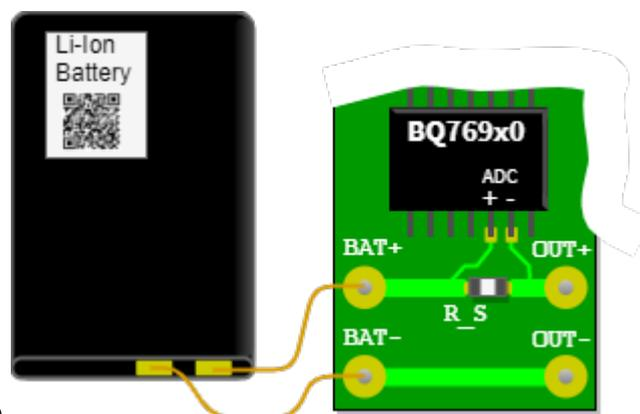

Fig. 32: Sketch of the setup
- The battery monitor BQ769x0 measures the charge and discharge currents of a lithium-ion battery by means of the voltage across a measuring resistor (shunt). In figure 32 the analog-to-digital converter (ADC) of this chip is connected to the shunt  $R_S$  via the circuit board. Through the shunt the discharge current flows from the battery connection  $BAT+$  to  $OUT+$  and via  $OUT-$  back to  $BAT-$ . The shunt shall be designed so that the bipolar measurement signals have a voltage level in the range of  $-0.20\text{ V}$  to  $+0.20\text{ V}$ . The analog-to-digital converter has a resolution of  $15\mu\text{V}$ . The currents can be used to count the charge in the battery to determine the state of charge (SOC).